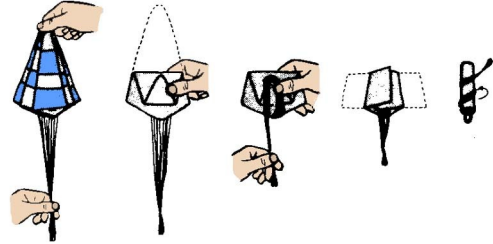

Figure 11
- **Step 23** Use the illustration in Fig. 11 to correctly fold the parachute prior to each flight. In cold climates, or during winter months, lightly dusting the parachute with fine talcum powder will help the chute open. Attach the snap link to the nose cone screw eye.